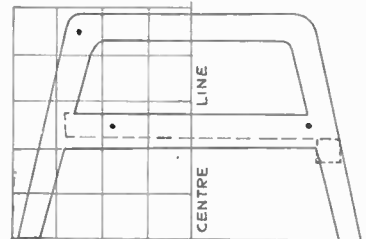

Fig. 4
shapely than those of chair (A), we have included here an outline diagram which may be enlarged to full size on the wood by means of the 1 in. squares shown in Fig. 4. Note the dotted lines which indicate where the seat will come and the rail underneath its front edge.
Then trace off on thin paper the half diagram including the centre line, and, turning the tracing over to meet the original centre line, complete the outline of the side as seen in Fig. 4.